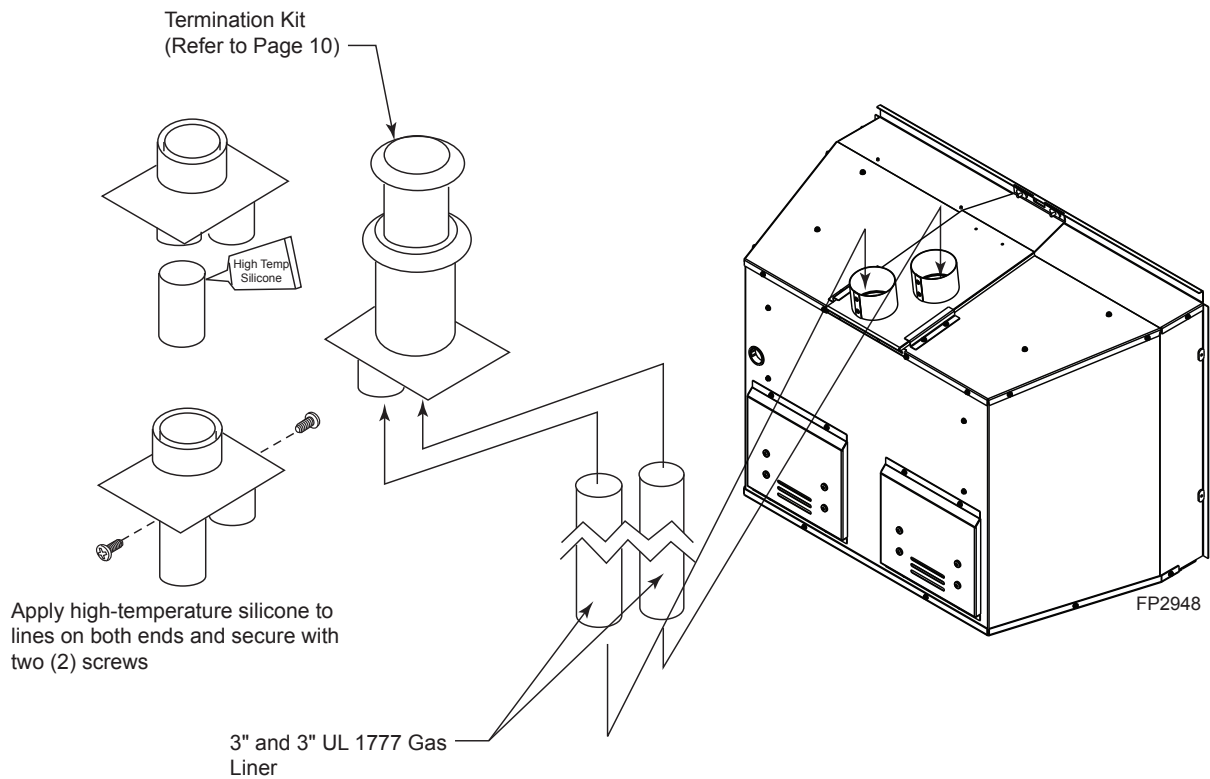

**Figure 6 -
- Make sure the exhaust pipe on heater connects to exhaust portion of cap. Attach flex liners. *Figure 6*